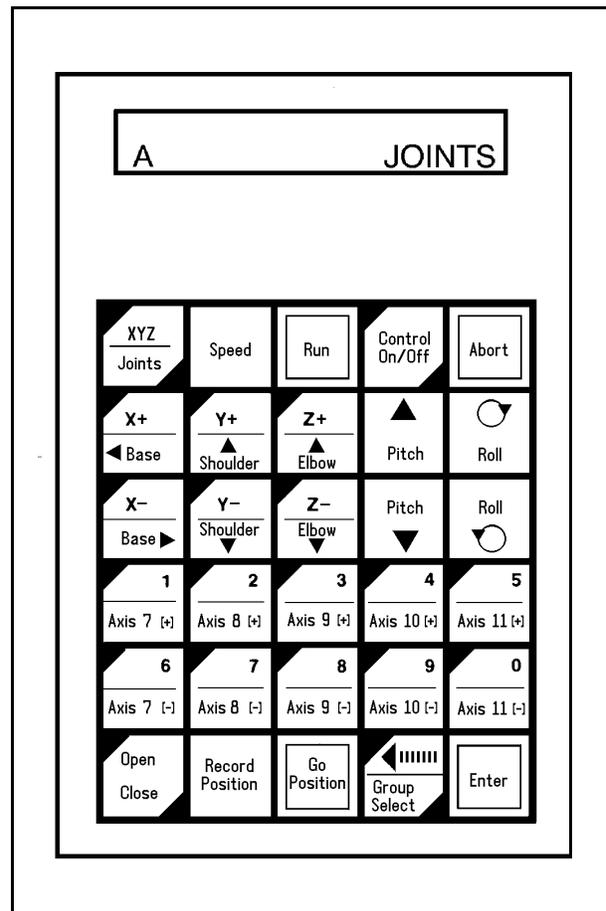

Figure 5-2: Teach Pendant Layout
The teach pendant (TP), shown in Figure 5-2, is a hand-held terminal, used for controlling the PERFORMER-MK2 robot and peripheral equipment. The teach pendant is most practical for moving the axes, recording positions, sending the axes to recorded positions and activating programs. Other functions can also be executed from the teach pendant.